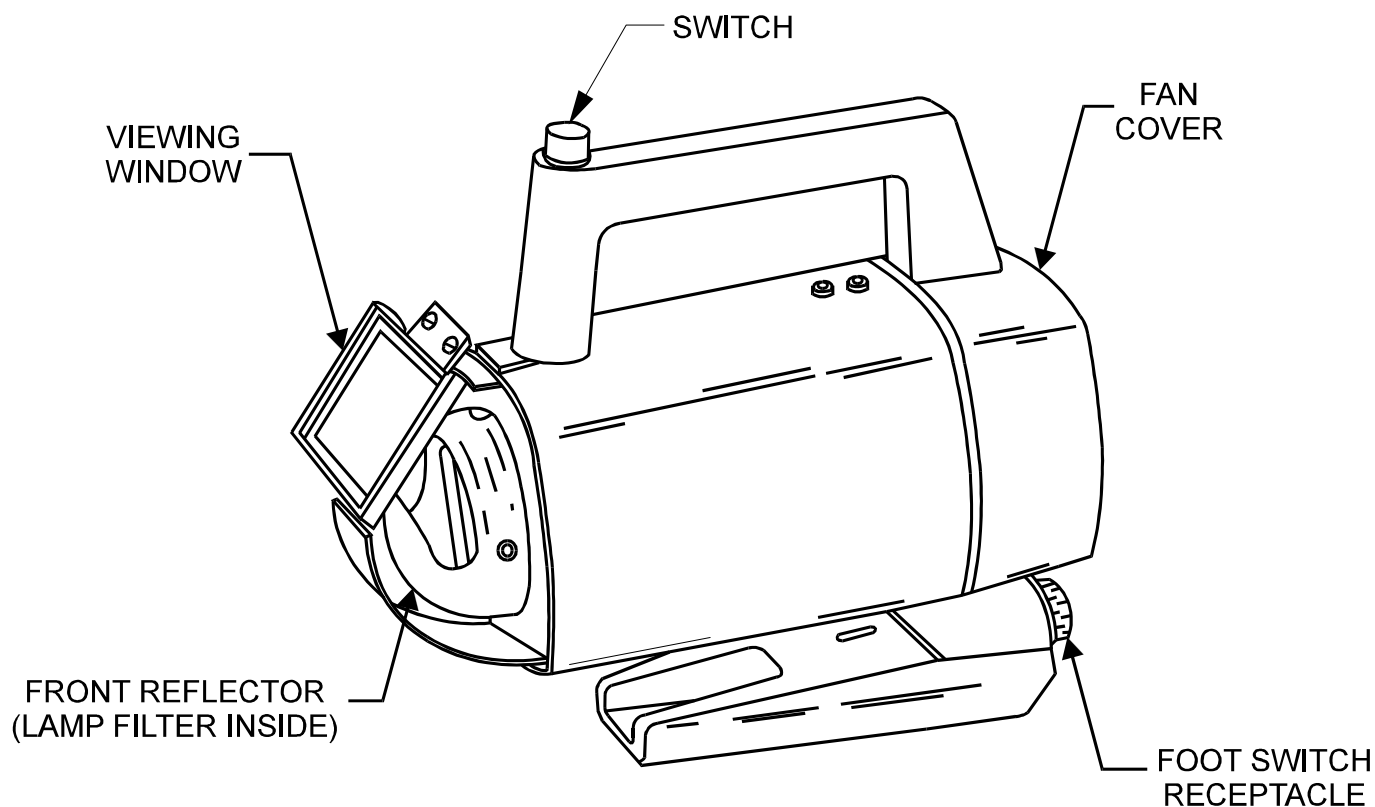

Figure 3-19
45. The infrared heating tool is a self-contained portable unit. The main components are labelled in Figure 3-19. Infrared heat tools offer several advantages over other methods of heating solder sleeves including faster shrinking and solder flow. Also being less complicated, they are easier to set up.